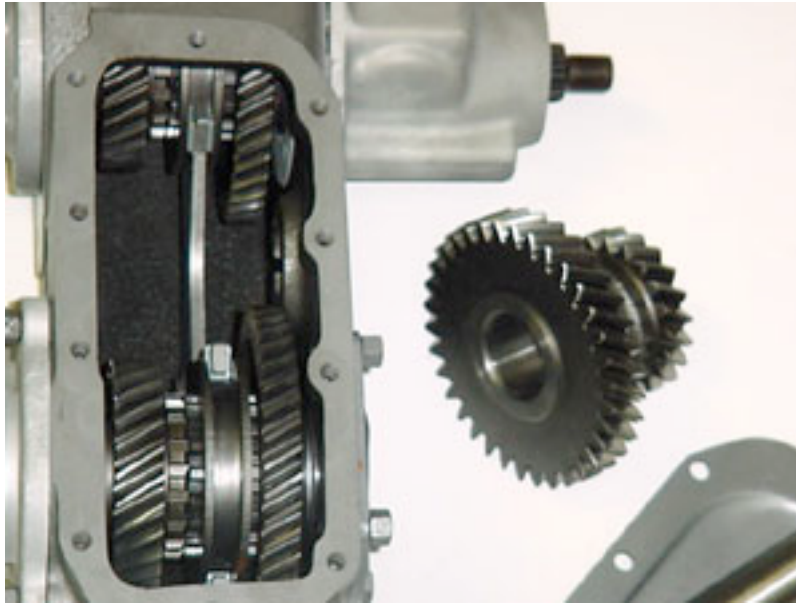

FIG: 3
3) Remove the idler gear from the case (Fig.3). Be aware of the needle bearings and 3 retaining rings in the center bore of the idler gear. Retain or replace during final assembly as desired.